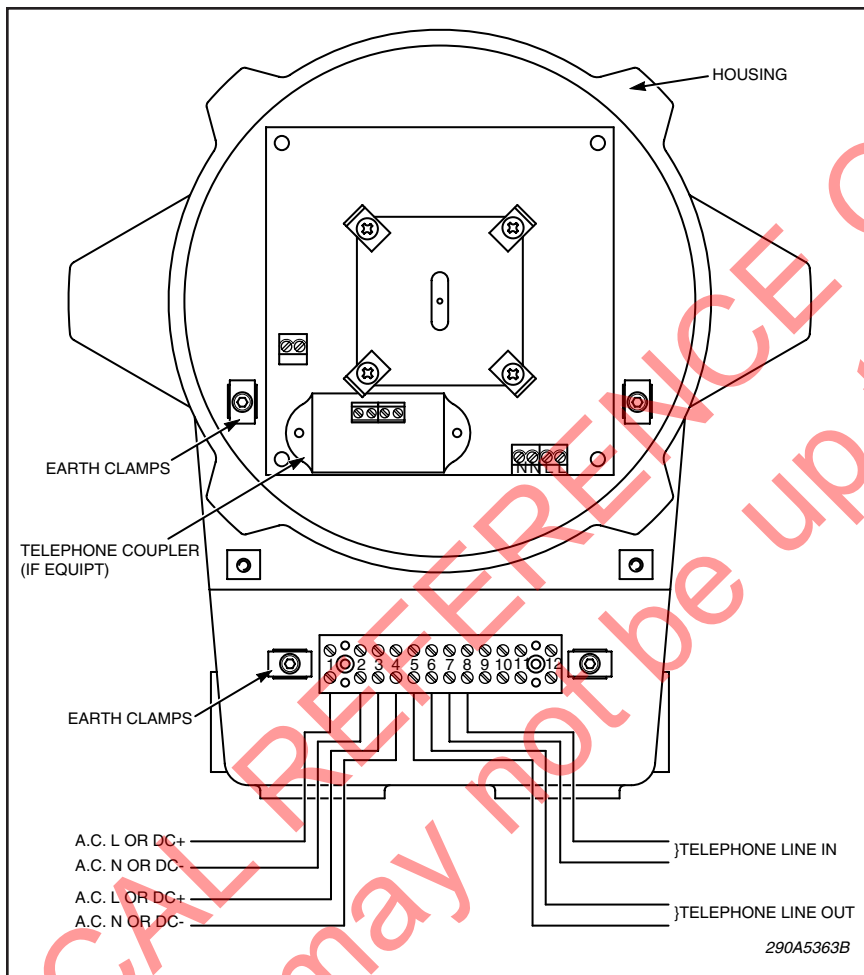

Figure 2.
- e. A twelve-pole screw terminal block is provided for field wiring. See figure 2 for wiring diagram. These terminals are rated for the following wire ranges: 22 to 12 AWG (0.5 to 4 mm²). Terminal tightening torque is 0.5 to 0.7 Nm.